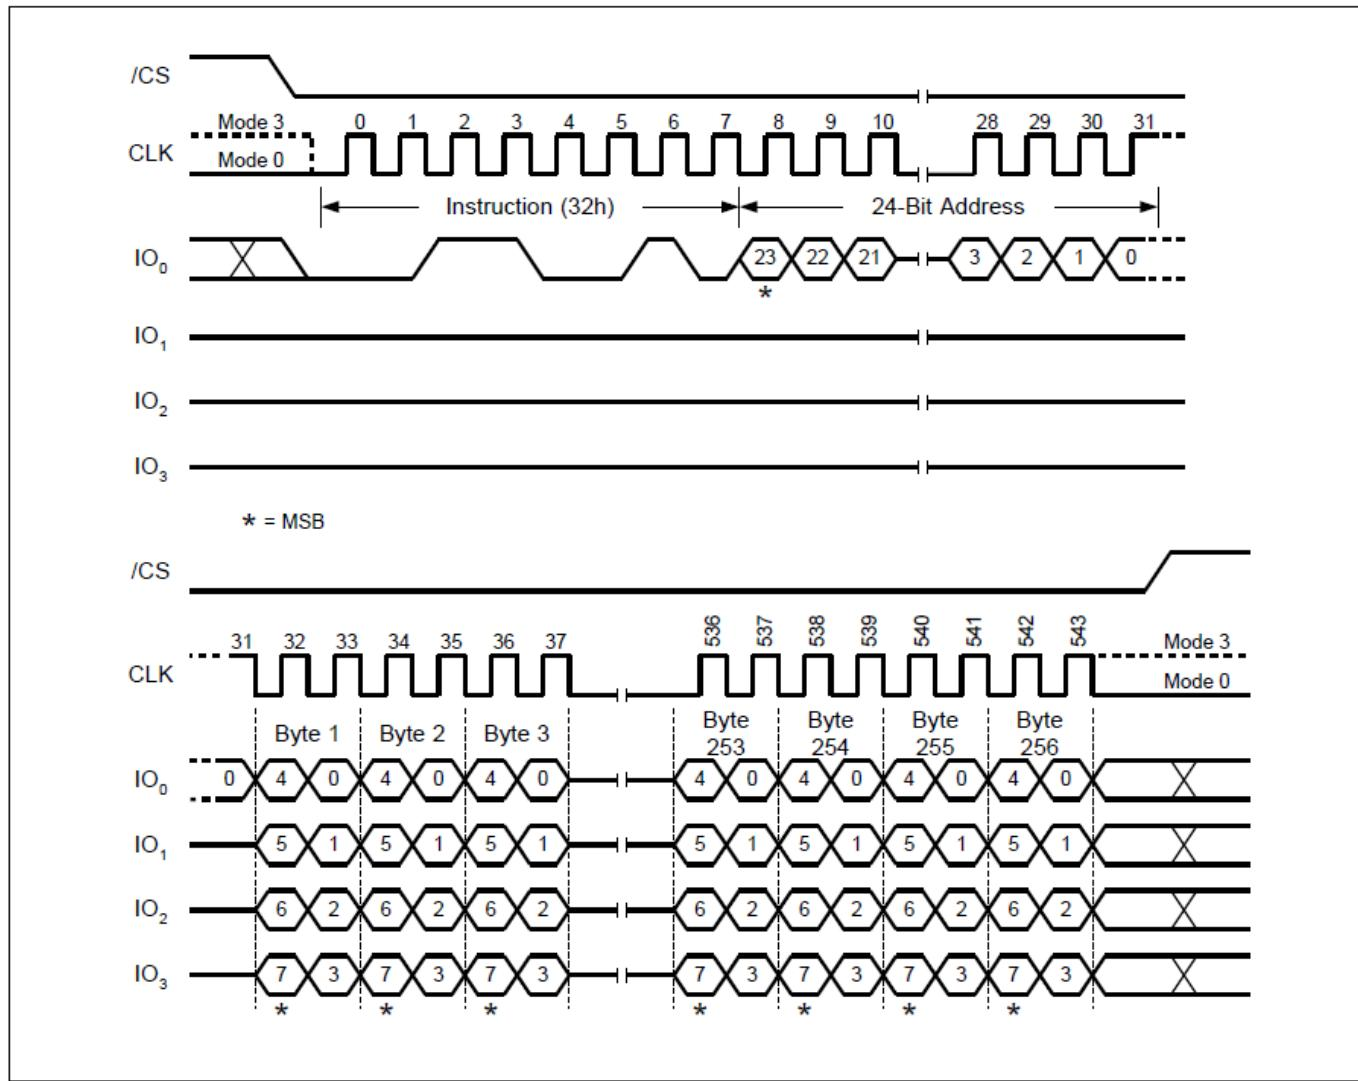

Figure14 Quad Page Program Sequence Diagram
The command sequence is shown in Figure14 If more than 256 bytes are sent to the device, previously latched data are discarded and the last 256 data bytes are guaranteed to be programmed correctly within the same page. If less than 256 data bytes are sent to device, they are correctly programmed at the requested addresses without having any effects on the other bytes of the same page. CS# must be driven high after the eighth bit of the last data byte has been latched in; otherwise the Quad Page Program (PP) command is not executed.